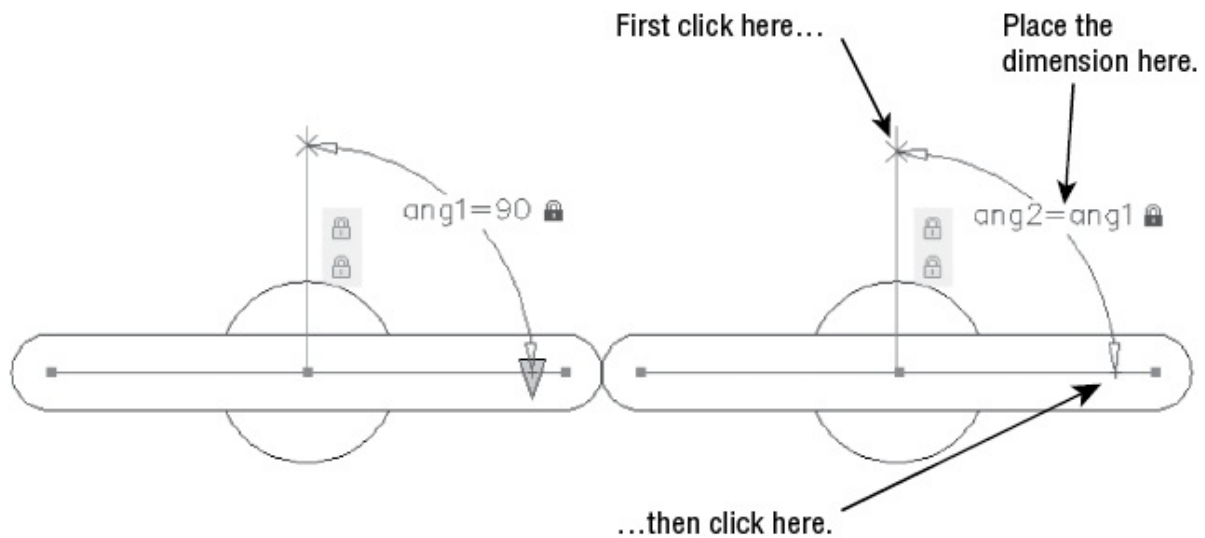

FIGURE 17.31 Adding the angular constraint to the second gate
2. Click the right vertical line near its top, as shown in Figure 17.31.
3. Click the right horizontal line near its right end (see Figure 17.31).
4. Place the dimension as shown in Figure 17.31.